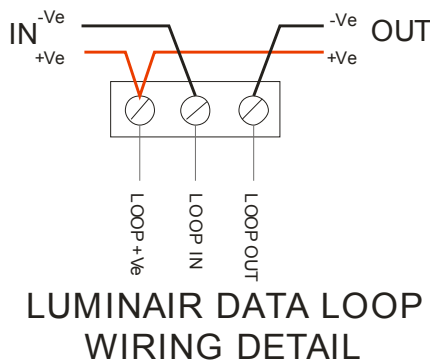

Fig 2.1
1) Due to the soft addressing functionality of the Easichack2 2 System it is imperative the loop connections are as per Fig 2.1 below with a common positive connection and –Ve Loop in/out are observed. When loop connections are installed incorrectly the system will fail to soft address luminaires.